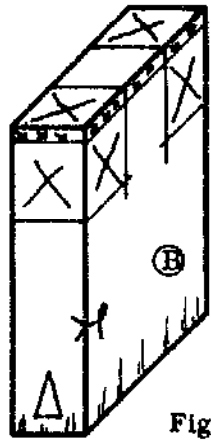

Fig. 4
- Set the marking gauge to the width of the tenon and mark the lines around piece B at the width. Mark the waste with small crosses (Fig. 4).